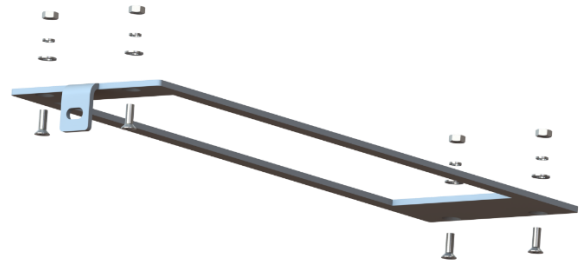

Figure 5.14. Module bracket
6. Take out the module bracket, remove the installed fasteners (fig. 5.14).